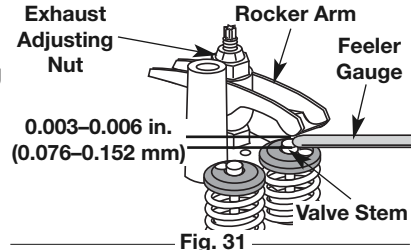

Fig. 31
- Slide the feeler gauge between the rocker arm and the top of each valve stem. Measure the clearance between the valve stem and rocker arm (Fig. 31). Measure both the intake and exhaust valves.
- Turn the adjusting nut using a 5/16 inch (8 mm) wrench or nut driver (Fig. 31).